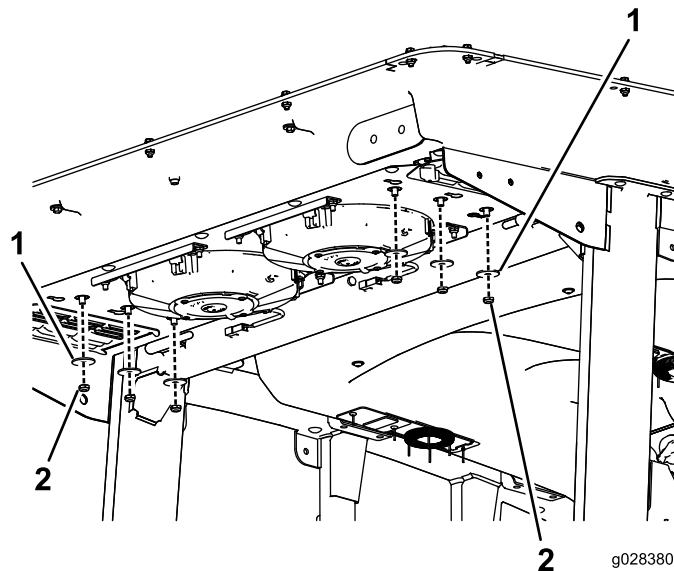

Figure 105
2. Remove the 6 nuts and washers from the bottom of the rear of the cab (Figure 105).